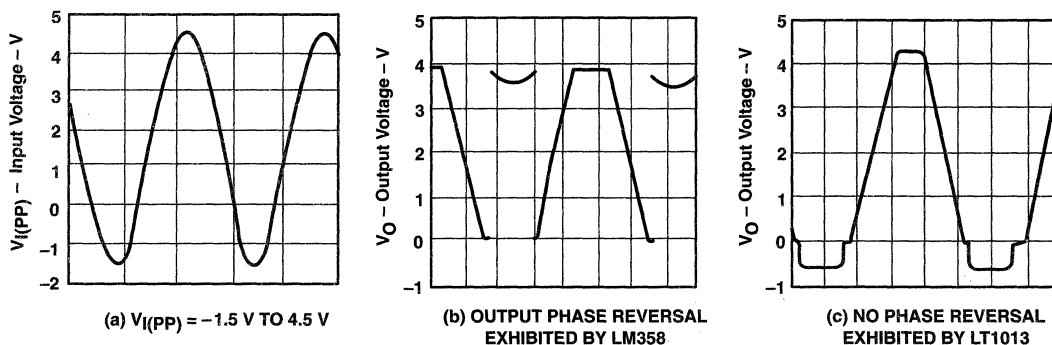

Figure 24. Voltage-Follower Response With Input Exceeding the Negative Common-Mode Input Voltage Range
2. When the input is more than 400 mV below ground (at $T_A = 25^\circ\text{C}$), the input stage of similar type operational amplifiers saturates and phase reversal occurs at the output. This can cause lock up in servo systems. Because of a unique phase-reversal protection circuitry (Q21, Q22, Q27, and Q28), the LT1013 outputs do not reverse, even when the inputs are at -1.5 V (see Figure 24).